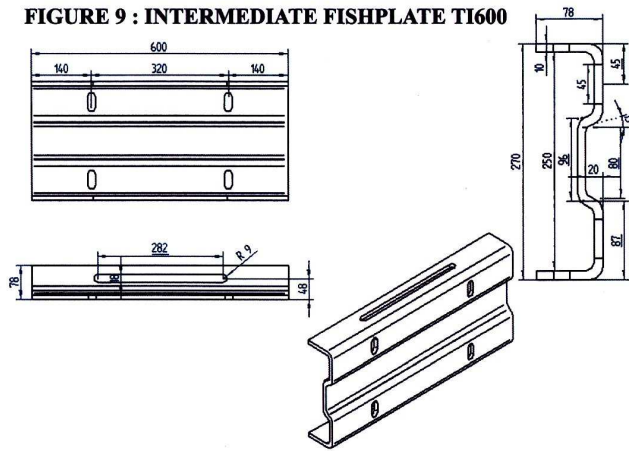

FIGURE 10 : SPACER TE40
- STEEL SPACER BLOCK TE 40 – Figure 10